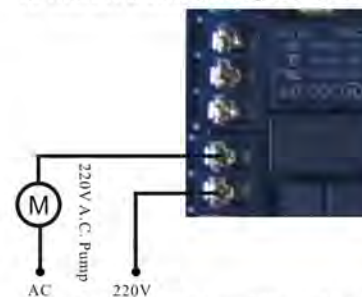
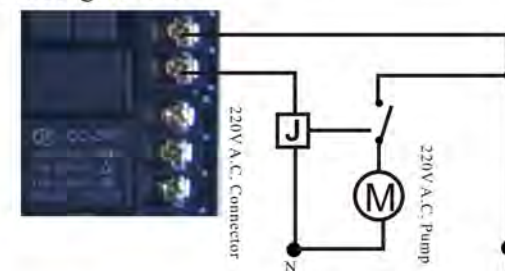

Figure 3-7 Wiring of Booster Pump on Inlet
Figure 3-8 Wiring of Booster Pump on Inlet
**Instruction:** If inlet water pressure is less than 0.15 MPa, which makes rinse drawing difficult, a booster pump is suggested to be installed on inlet. Control mode is b-01. When system in regeneration cycle, booster pump is open, the wiring refers to Figure 3-7.If the booster pump current is bigger than 5A, system needs to install a contactor, the wiring refers to Figure 3-8.